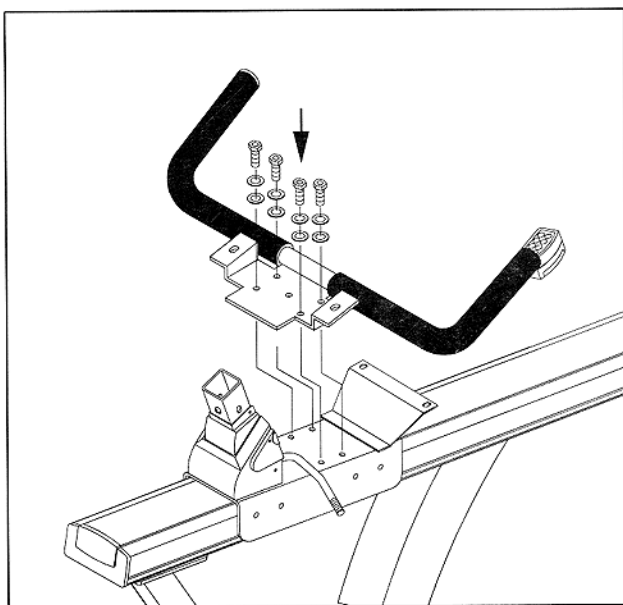

Fig.6
8. Attach the handlebar mounting plate to the cycle frame, using the bolts and washers provided. (see Fig.6)